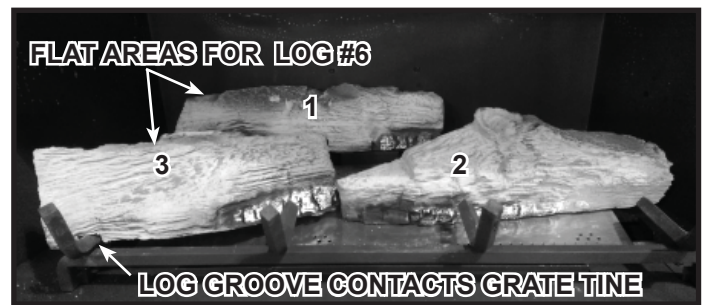

Figure 9. Log #3 Installed
**Log #3 (SRV2218-705):** Note the location of the log pin placement hole and grate tine groove on the bottom of Log #3. Position Log #3 as shown in Figure 9 by mating the hole on the bottom of Log #3 with the last log pin on the surface of the burner, adjusting placement on the grate tine as necessary for correct orientation.
**Log #6 (SRV2218-706):** Note the locations of the flat areas on Log #1 and Log #3 highlighted in Figure 9. Position Log #6 as shown in Figure 15 by placing the right face of the log fully against the end of the flat areas in Log #1 and Log #3. The end of the log will contact the back wall of the firebox.